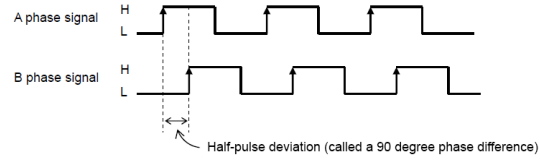

Figure 2-4
- For an A/B phase type there should be 90° difference between the pulses from A and B. See Figure 2-4.